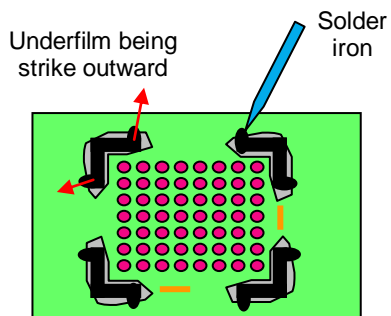

Figure 8
- By using the Solder Iron Tip, strike out the two corners of the underfilm as shown in Figure 8.